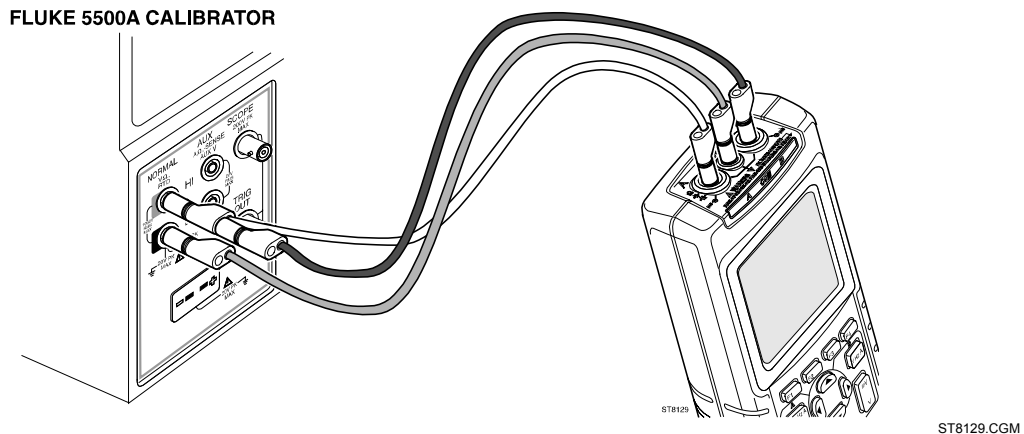

Figure 5-7. Volt Gain Calibration Input Connections 500V
10. Connect the test tool to the 5500A as shown in Figure 5-7.